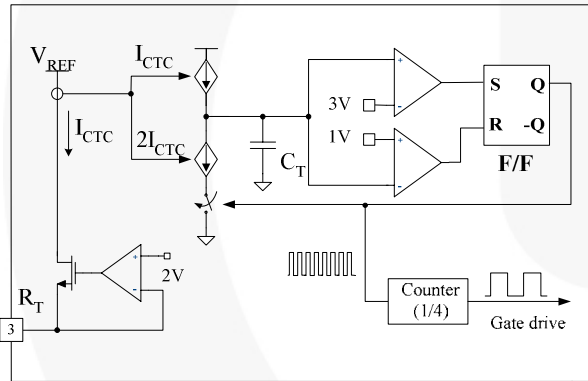

Figure 17. Current Controlled Oscillator
2. Internal Oscillator: FSFR-series employs a current-controlled oscillator, as shown in Figure 17. Internally, the voltage of R_T pin is regulated at 2V and the charging/discharging current for the oscillator capacitor, C_T , is obtained by copying the current flowing out of R_T pin (I_{CTC}) using a current mirror. Therefore, the switching frequency increases as I_{CTC} increases.